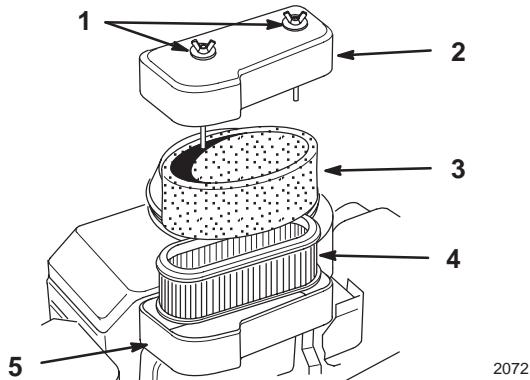

Figure 22
2. Clean around the air cleaner to prevent dirt from getting into the engine and causing damage. Unscrew the cover nuts and remove the air cleaner cover (Fig. 22).
3. Remove the air cleaner assembly (Fig. 22).
4. Carefully slide the foam element off the paper element (Fig. 22).
- Carefully slide the foam element onto the paper air cleaner element (Fig. 22).
- Place the air cleaner assembly onto the air cleaner base (Fig. 22).
- Install the air cleaner cover and secure with cover nuts (Fig. 22).